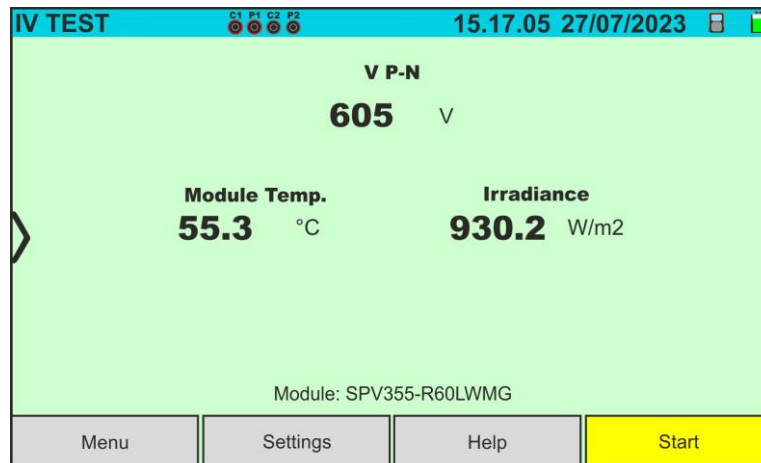

Fig. 35: Initial I-V curve measurement screen on Monofacial modules
4. In the case of **Monofacial** modules, the Fig. 35 screen is present on the display. The following parameters are shown: